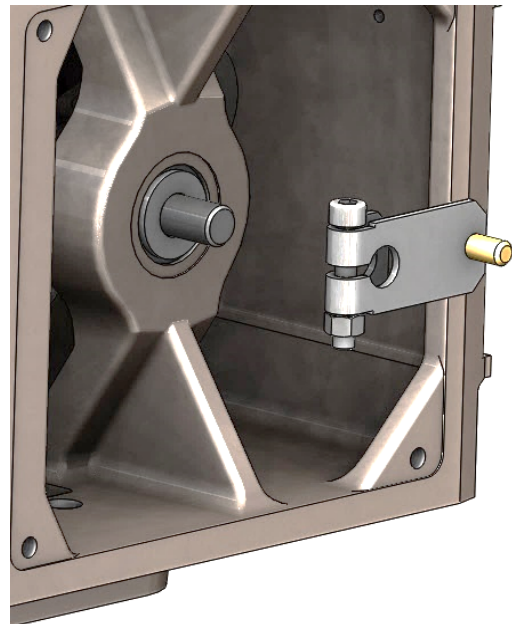

Figure 16: NR-S Take Off Arm
- 1 Slide the take-off arm onto the shaft. Insert the screw with the star washer through the take-off arm and add the second star washer and nut. Tighten the nut with a socket, so the arm is just snug on the shaft but still able to rotate. Tightening will occur after linkage is correctly oriented. Refer to Figure 16: NR-S Take Off Arm.